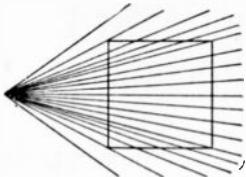
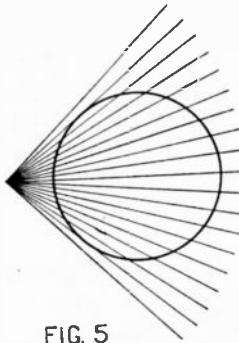

FIG. 1
FIG. 5
**F**IGURES 1, 2, 3 and 4, illustrated herewith, are squares! That is to say, they are only squares geometrically speaking. As we look at them their sides seem to be crooked lines. In Fig. 5 there is a true circle drawn in a
vations of things there is always a movement of the eyes and in consequence thereof a movement of the image on the retina. We can convince ourselves of this easily by direct observation or if we move Fig. 1 or Fig. 5 rather quickly to and fro. Then we see a strong dispersion of the rays by moving them in the direction of their convergence